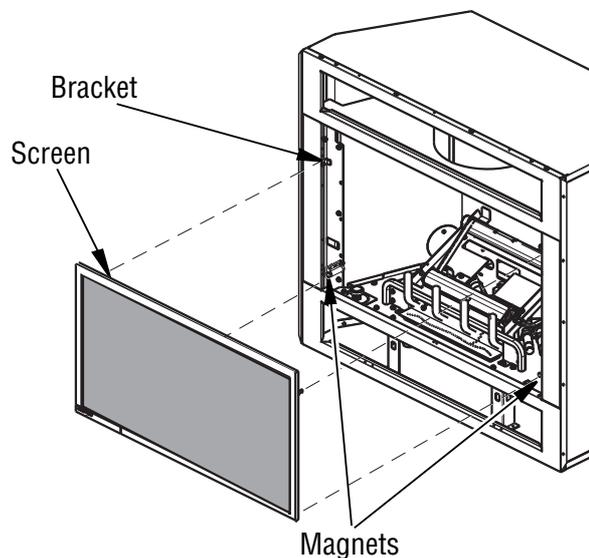

Figure 38 - Installing Fireplace Screen
4. Install fireplace screen by placing the screen brackets on top of the fireplace screen brackets as shown in *Figure 38*. Push the bottom of the screen inward against the magnetic catches to secure in place.